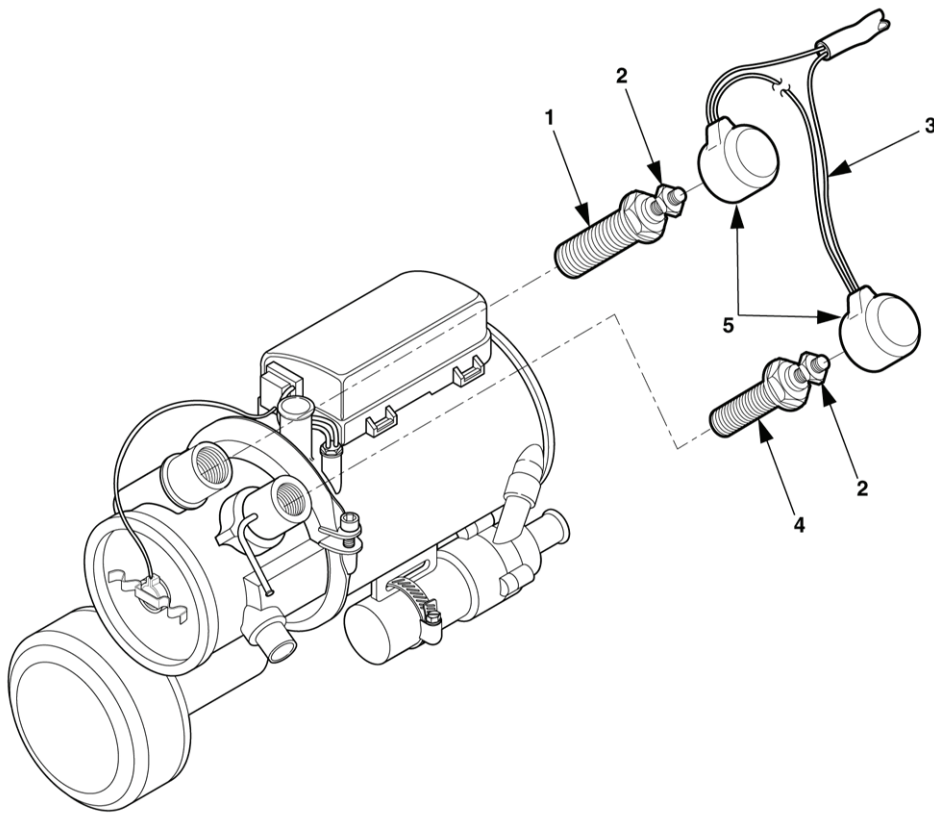

Figure 1. Igniter/Glow Plug and Resistor Maintenance.
2. Remove caps (Figure 1, Item 5) from igniter/glow plug (4) and/or resistor (1). Loosen hex nuts (2) on igniter/glow plug (4) and/or resistor (1). Remove cable (3).
3. Unscrew igniter/glow plug (4) and/or resistor (1), as required, and remove them. Use an angled hook to clean the igniter/glow plug hole and resistor hole.
4. Install igniter/glow plug (4) in igniter/glow plug hole and/or resistor (1) in resistor hole.
5. Install cable (3), hex nuts (2), and caps (5).